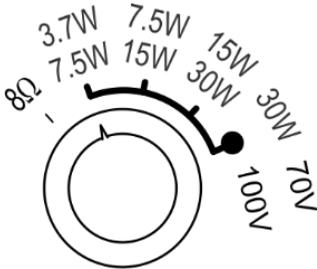

Figure 4: Adjust Tap Selector
| Figure 4: | Adjust Tap Selector | 8 |
3. Adjust each speaker to the appropriate tap setting before installing the grille (see Figure 4).